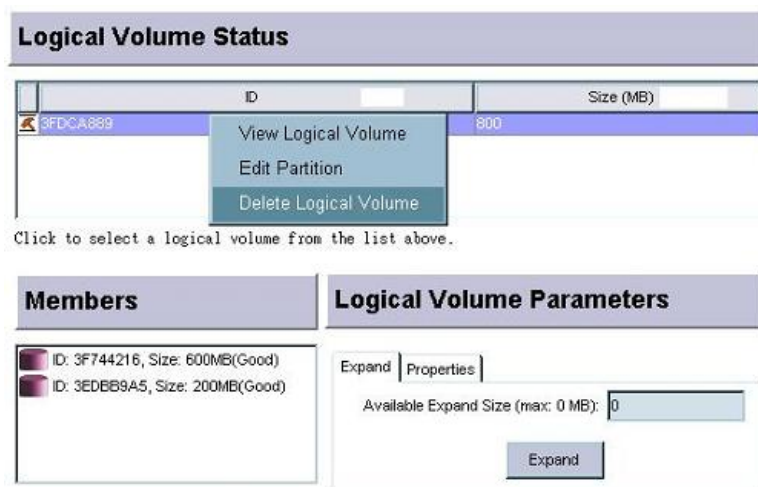

Figure 9-19: Displaying Logical Volume Edit Mode Menu
Step 1. Select the configured volume you wish to remove with a single mouse-click. **Right-click** the adjacent area to display a command menu. As shown in *Figure 9-19*, all the LVs that have been created will appear below the “**Logical Volume Status**” panel.